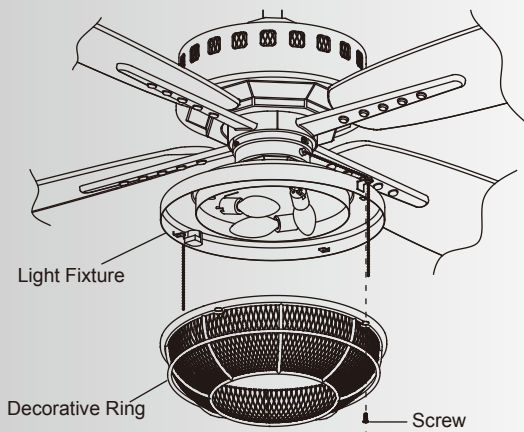

Fig. 25
Step 6. Secure the decorative ring to the light fixture by fitting it up securely to the light fixture. Secure the decorative ring with the flat head screws. (Fig. 25)